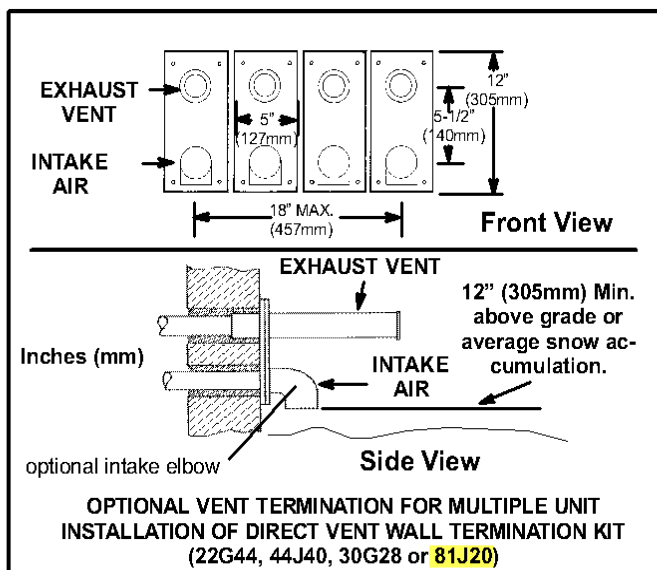

FIGURE 25
- Based on the recommendation of the manufacturer, a multiple-furnace installation may use a group of up to four terminations assembled together horizontally, as shown in figure 25.